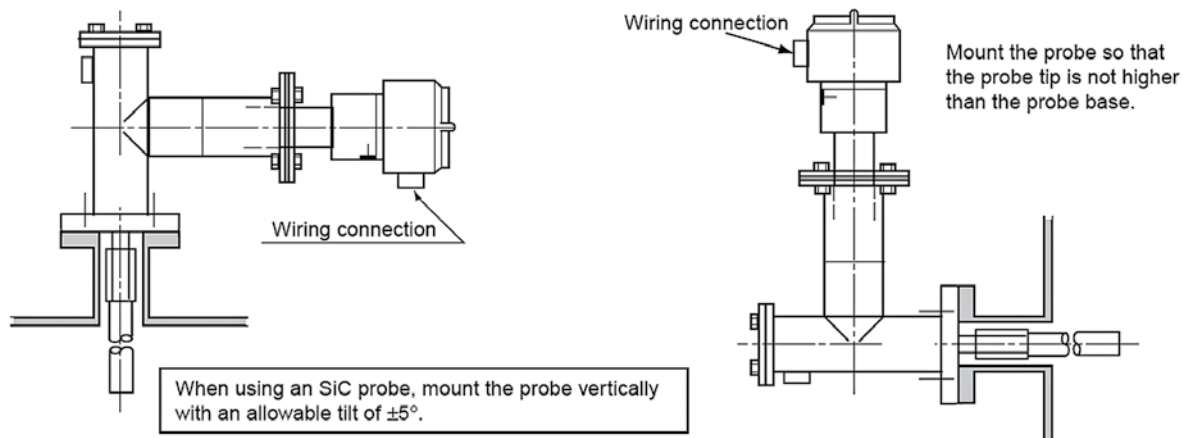

Figure 4.2
1. It is recommended that the detector be mounted vertically. If it is necessary to mount the detector horizontally, ensure that the probe tip is placed no higher than the probe base. Figure 4.2.